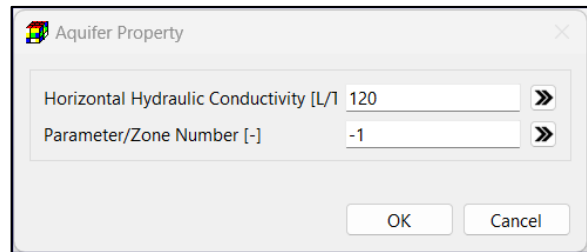

Figure 21. The Aquifer Parameter dialog box
- Most polyline data entry dialog boxes include **»»** buttons next to data entry fields. Figure 21 illustrates the Aquifer Parameter dialog box with these buttons. Clicking the button next to a parameter applies the data to the corresponding model cells along the polyline.
Figure 21 illustrates the Aquifer Parameter dialog box with these buttons. Clicking the button next to a parameter applies the data to the corresponding model cells along the polyline.